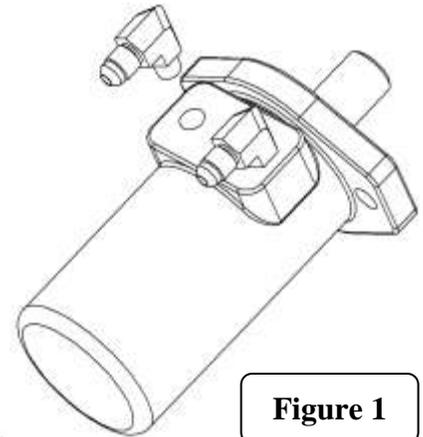
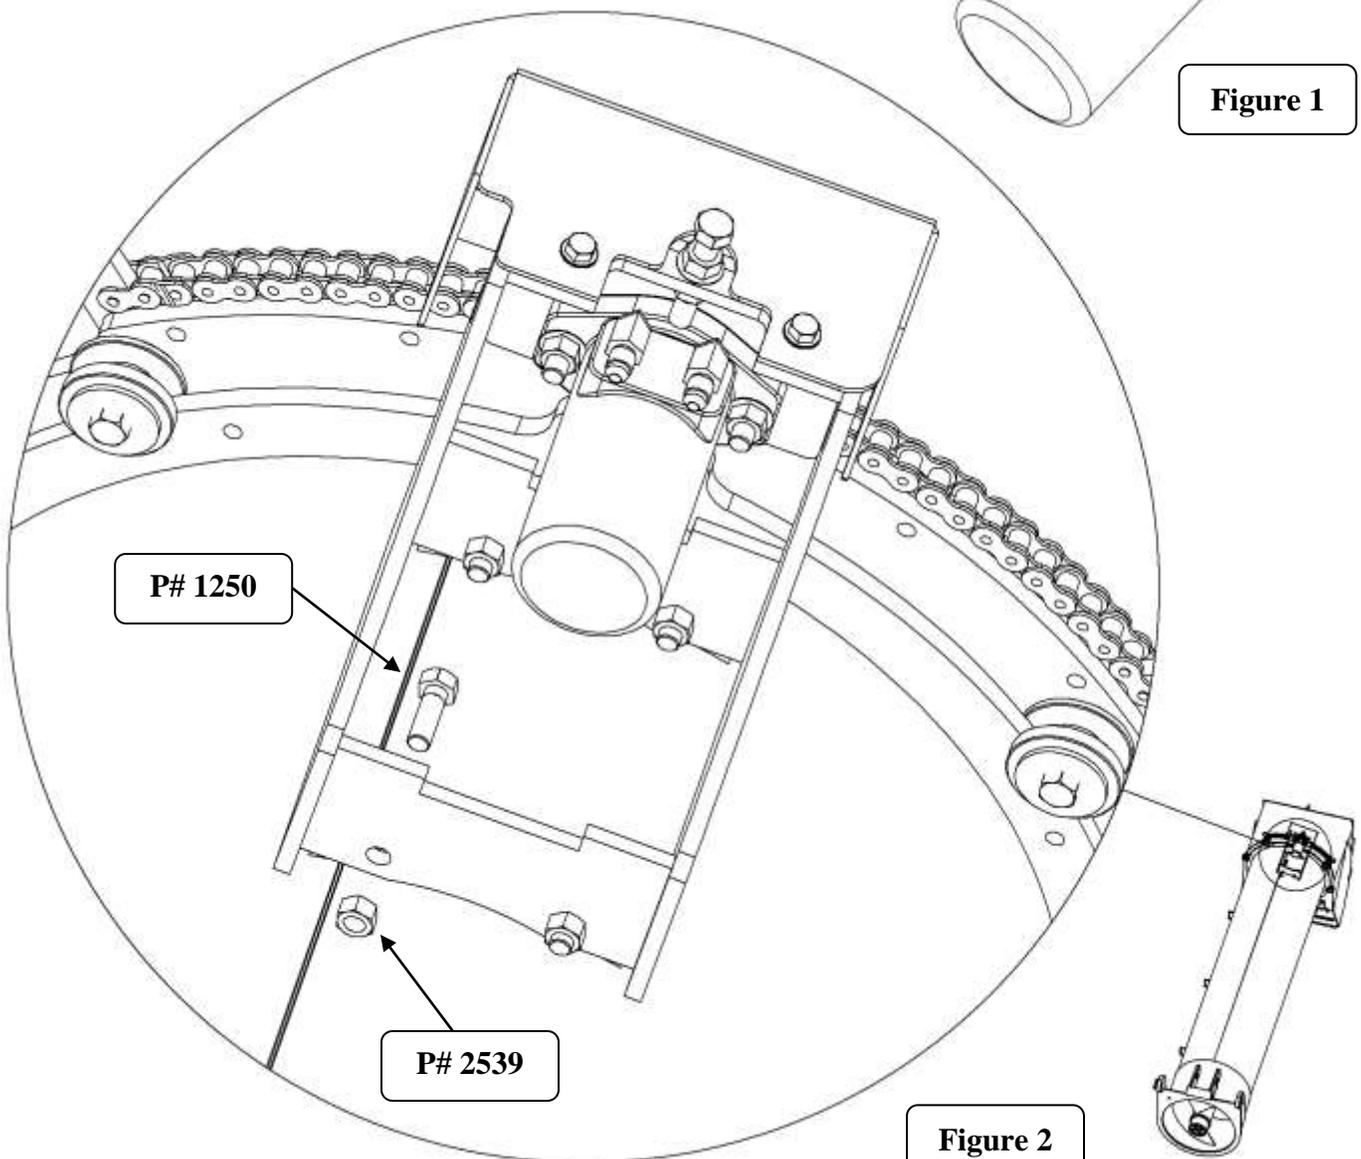

Figure 1
Figure 2
Install (2) hydraulic fittings P# 842000 into hydraulics motor P# 12554. See Figure 1. Install hydraulic motor and mount to upper auger using bolts P# 1250 and lock nuts P# 2539. See Figure 2.